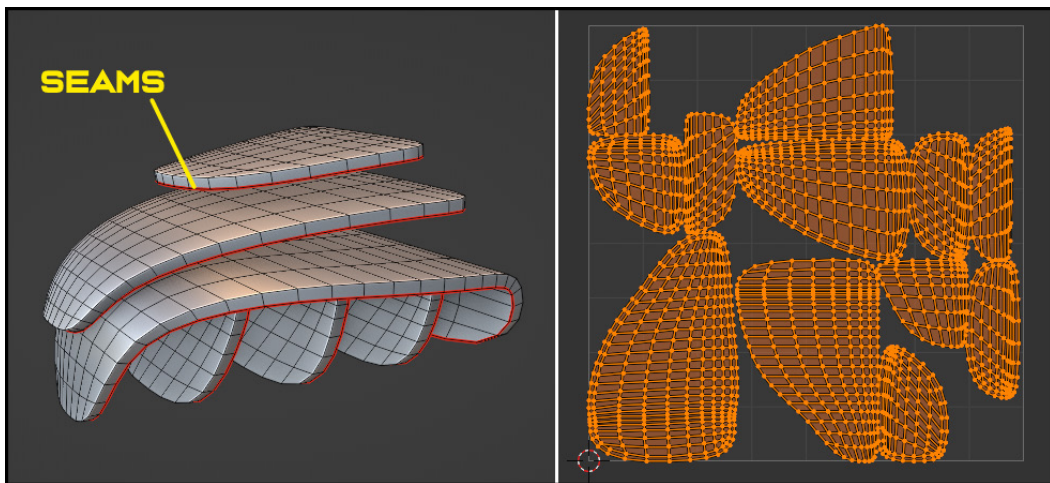

Figure 6.17 – Marked seams (left), UV-unwrapped diffuser (right)
1. Mark the seams on the diffuser in the back of our ship, as shown in *Figure 6.17* (left). After unwrapping, the UV map should look something like in *Figure 6.17* (right):